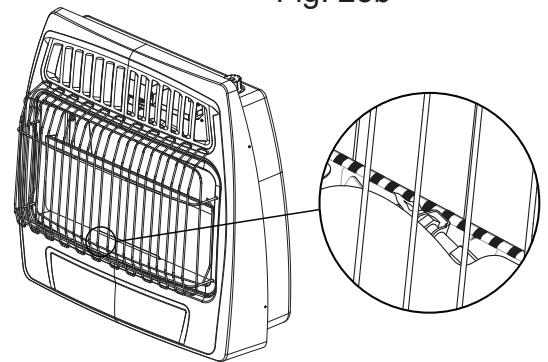

Fig. 24 - Pilot Flame Location
6. With control knob depressed, repeatedly push down the piezo ignitor "⚡" until the pilot lights. The pilot is visible, centered below the main burner, behind the glass panel. (See Fig. 24 on page 19)
7. Keep control depressed for (30) seconds after pilot lights. Release control knob.
**Note:** If pilot goes out repeat steps 3 through 7. Wait (1) minute before attempting to light pilot again.
6. With control knob depressed, repeatedly push down the piezo ignitor until the pilot lights. The pilot is visible, centered below the main burner, behind the glass panel. (See Fig. 24)
**Note:** If pilot goes out repeat steps 3 through 7. Wait (1) minute before attempting to light pilot again. If after several tries the pilot still goes out, turn the gas control knob clockwise ↷ to the "OFF" position and call your service technician or gas supplier. If the control knob does not pop up when released, stop and immediately call your service technician or gas supplier.